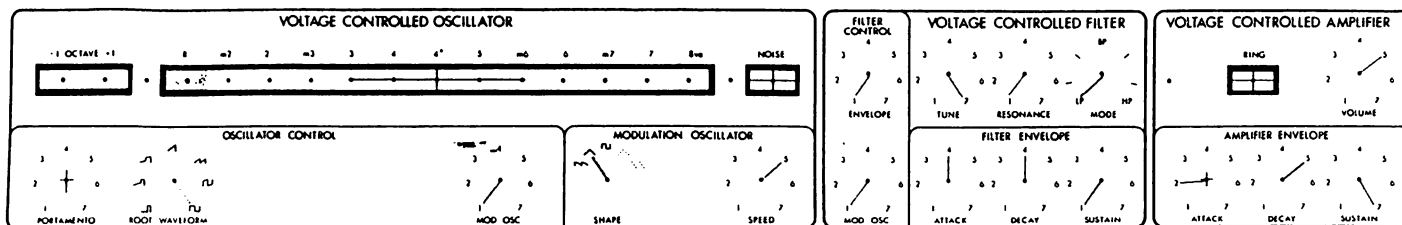
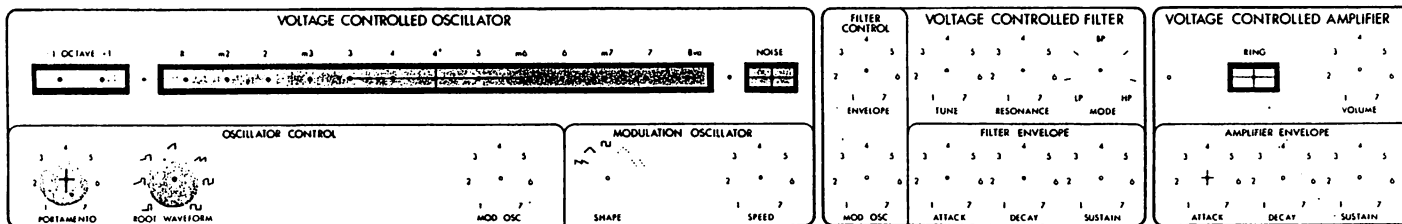

Fig. 1
Fig. 2 Source Controls
A. Set the controls on your SynKey as shown in figure 1. Note the controls shown as SOURCE CONTROLS in figure 2.
When listening to the pulse with the synthesizer set as in fig. 1, you should hear a change in timbre with key depression. The pulse is being "width modulated" by the Filter Envelope to make it even brighter. More about that later. As you become more familiar with SynKey you will find that the ROOT WAVEFORM control will be very useful in developing particular timbres.